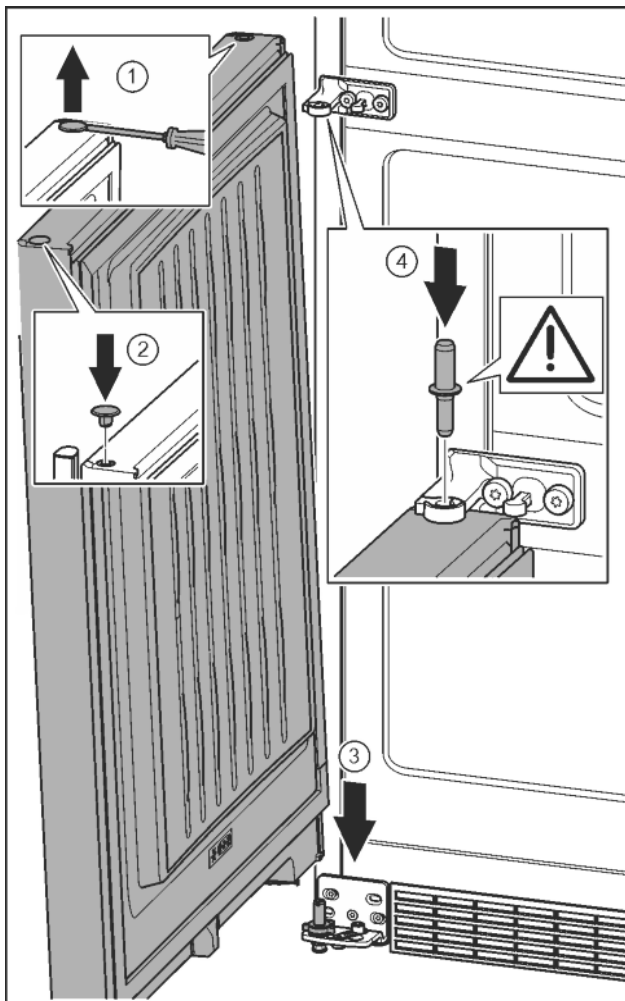

Fig. 21
- ▶ Carefully lift up the plugs and remove them with a slotted screwdriver. Fig. 21 (1)
- ▶ Insert the plugs again on the other side of the door. Fig. 21 (2)
- ▶ Position the door from above onto the lower bearing bolts. Fig. 21 (3)
- ▶ Insert the middle bearing bolt through the middle bearing bracket into the lower door. Ensure here that the catch mechanism points backwards. Fig. 21 (4)